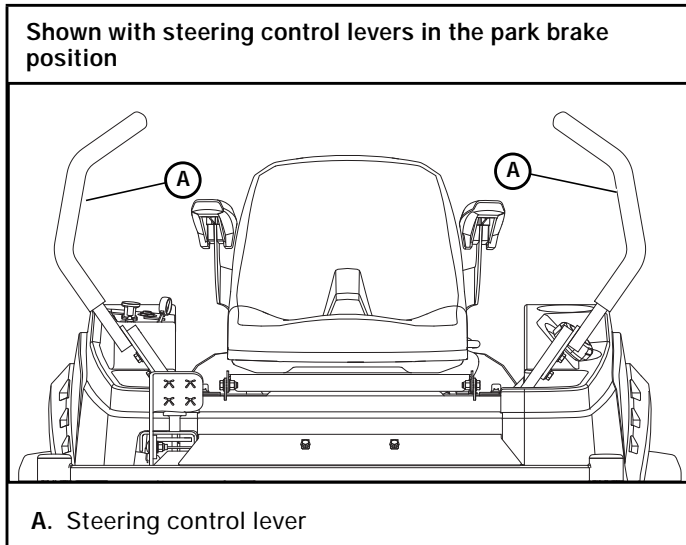

Figure 4-5
4. Shut engine off and place the steering control levers in the park brake position. Raise the seat and seat platform. Figure 4-5